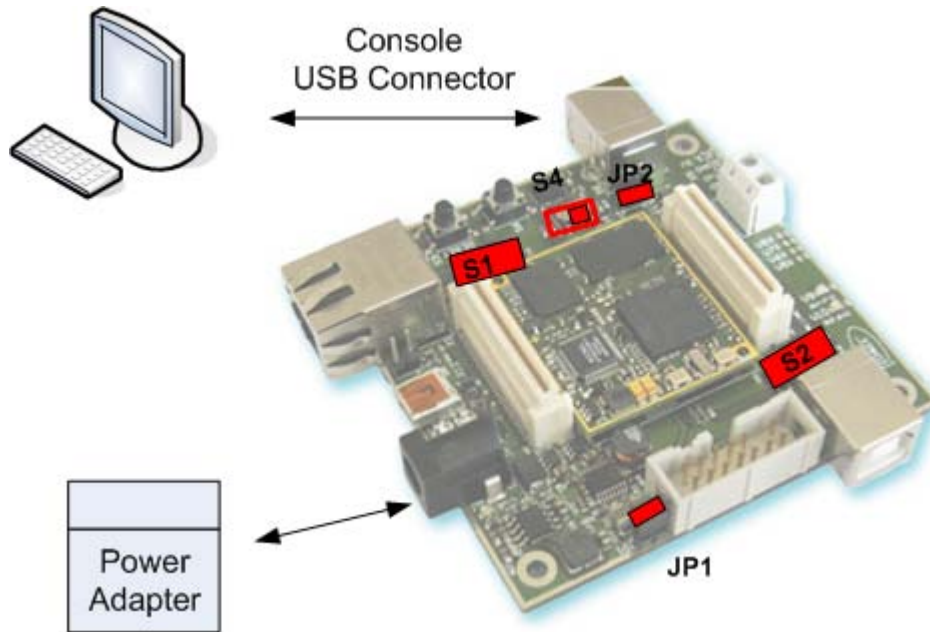

Figure 8-1: Setup of the DEV-BF5xxDA-Lite Board
1. Make sure the Jumper **JP1** and **JP2** are set and the switch **S4** is in position **0** as shown in Figure 8-1 .